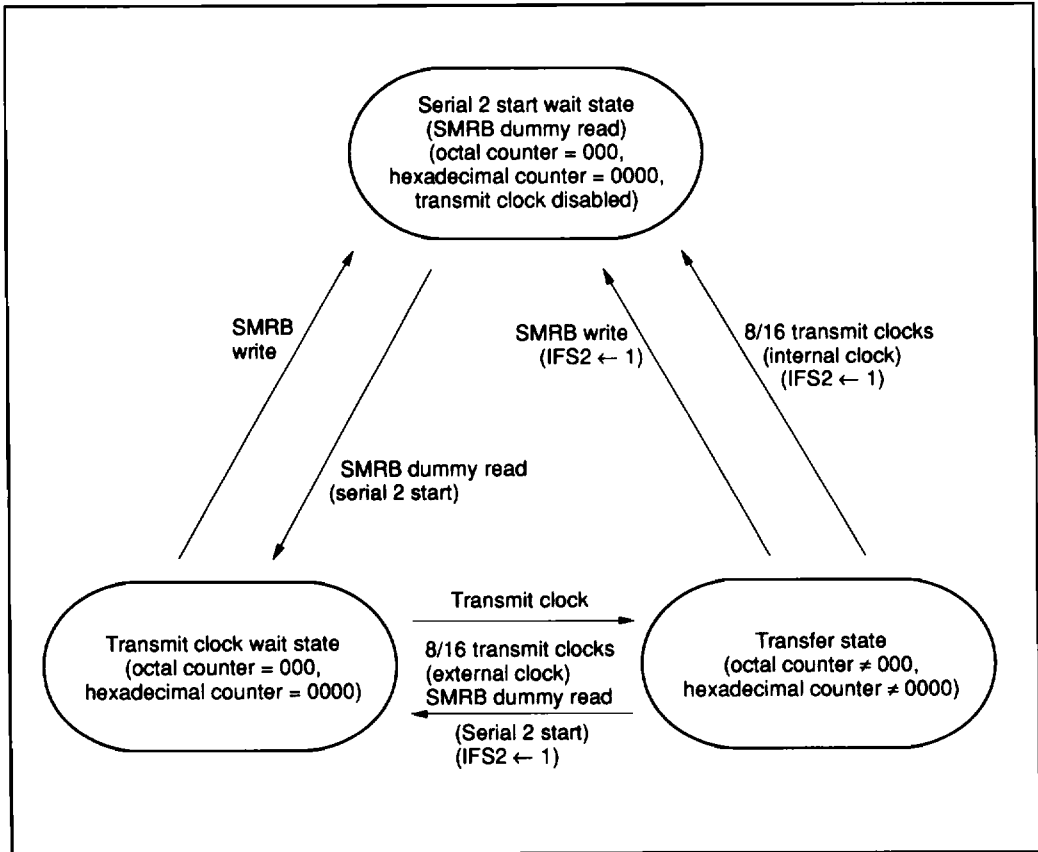

Figure 40 Serial Interface 2 Mode Transitions
**Serial Interface 2 Operation:** Three operating modes are provided for serial interface 2; transitions between them are shown in figure 40.